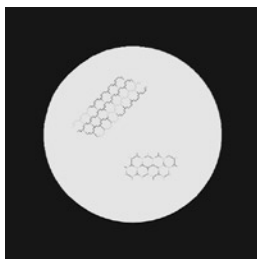

Figure 3-7. Chicken Wire
(5) Chicken Wire. An irregular pattern of dark thin lines in the field-of-view either throughout the image or in parts of the image area (see Figure 3-7). Under the worst case condition, these lines will form hexagonal or square-wave shaped lines. No action is required if this condition is present unless it interferes with the operator's ability to view the image or to perform the mission.